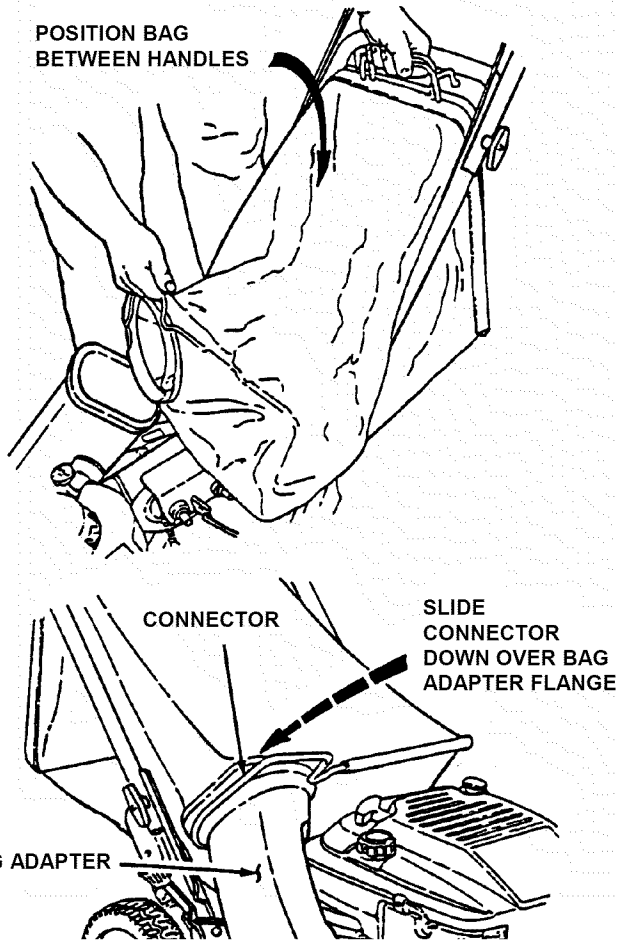
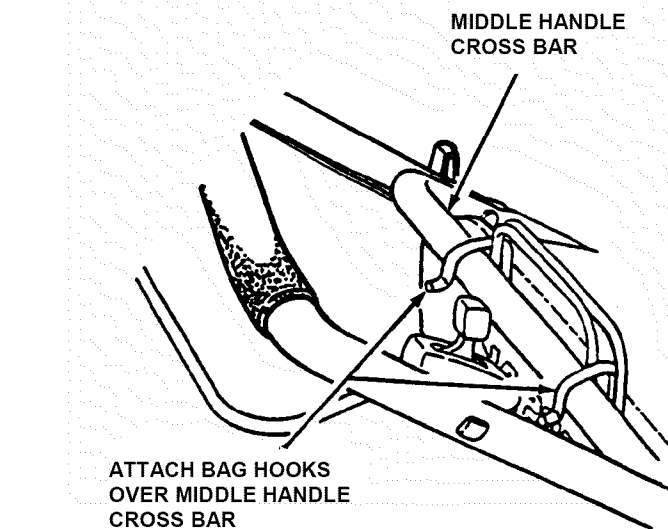

FIGURE 14
FIGURE 15
STEP 2: Install grass bag by sliding connector over flange of adapter. See Figure 14. Attach grass bag hooks over middle handle cross bar. See Figure 15.